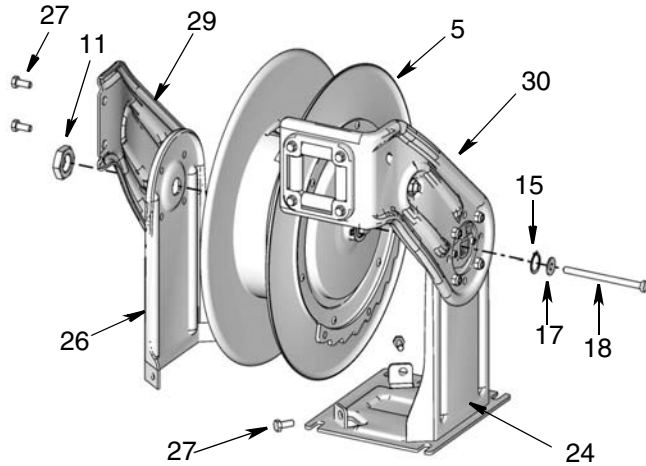
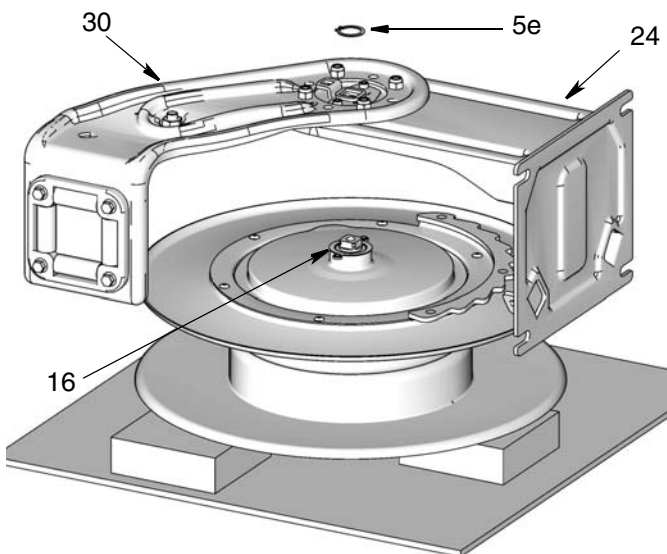

FIG. 16
FIG. 17
5. Remove large nut (11) (FIG. 16).
6. Remove two screws (27) holding pedestal (26) to base (24) and two screws (27) holding guide arm (29) to guide arm (30) (FIG. 16).
7. Completely remove guide arm and pedestal assembly (26 / 29) and set it aside to reinstall on the new spool (FIG. 16). These parts do not have to be disassembled.
8. Lay hose reel on its side so you can easily access the guide arm and pedestal (24 / 30). Remove long bolt (18) and washers (15 / 17) (FIG. 16 and FIG. 17).
9. Remove snap ring (5e) (FIG. 17).
12. Place new spool (5) on its side on a work bench. Make sure the flat side of the spool faces down on the table and the ratchet side is facing up, as shown in FIG. 17.
NOTE: It is easier to reattached the guide arm and pedestal assembly to the spool if the spool is supported and somewhat level. Placing a couple blocks of 1" thick scrap wood under the spool as shown in FIG. 17 (page 22) will help support the spool during the arm installation.
19. Install large nut (11) (FIG. 16, page 22). Tighten and torque nut to 85-105 ft. lbs (378 - 467 N.m).
20. Tighten bolt (18).
21. Align guide arm (29) and guide arm (30). Install screws (27). Tighten and torque screws to 20-30 ft. lbs (89 - 133 N.m).
22. Align pedestal assembly (26) to base (24). Install 2 screws (27). Tighten and torque screws to 20-30 ft. lbs (89 - 133 N.m).